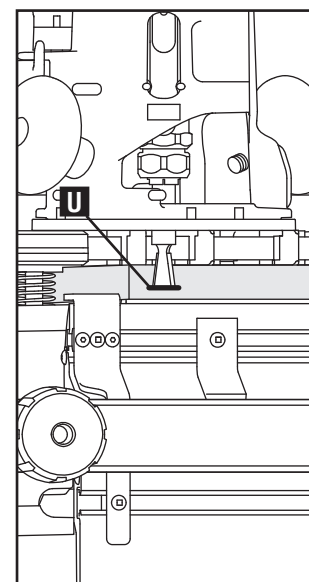

Fig. E8
- c. Set router on the template, lower bit to this mark and lock bit in place. (Fig. E8)